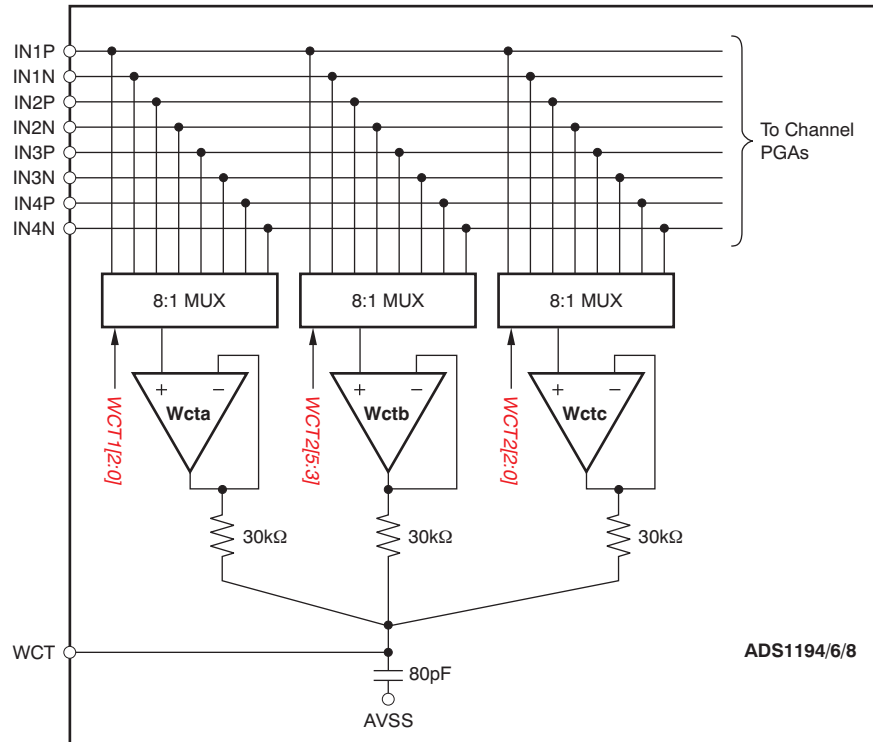

**Figure 44. WCT Voltage**
In the standard 12-lead ECG, WCT voltage is defined as the average of Right Arm (RA), Left Arm (LA), and Left Leg (LL) electrodes. This voltage is used as the reference voltage for the measurement of the chest leads. The ADS1194/6/8 has three integrated low-noise amplifiers that generate the WCT voltage. Figure 44 shows the block diagram of the implementation.